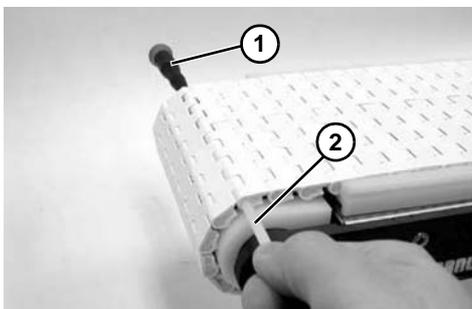

Figure 38
2. Insert screwdriver (Figure 38, item 1) into one side of belt, pushing rod (Figure 38, item 2) out. Remove rod and separate belt.